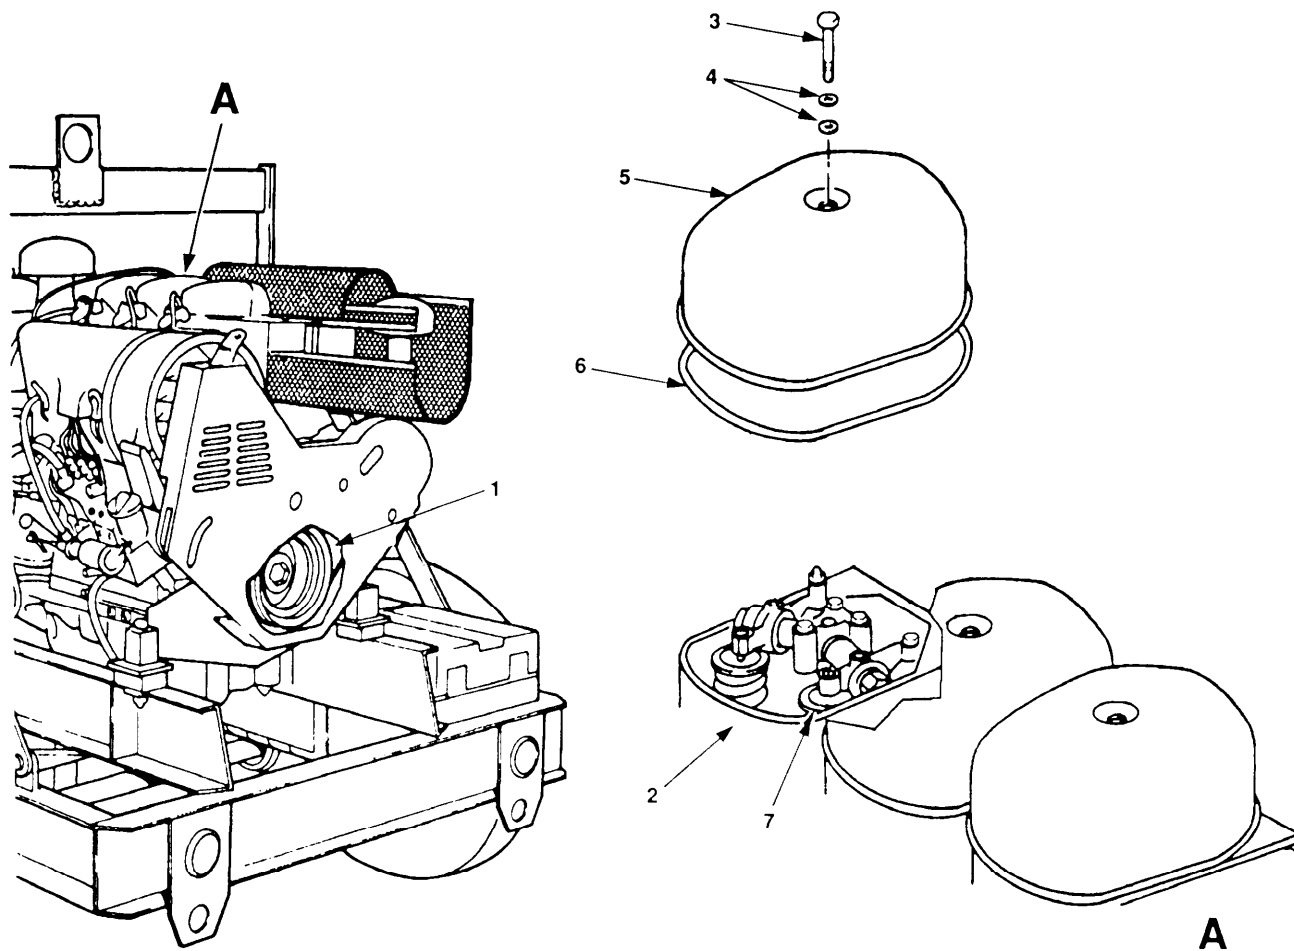

Figure 5-9. Marking of Top Dead Center (TDC).
- a. Install position pointer so that pointed end almost contacts outside edge of crankshaft pulley (figure 5-9, 1).
- b. Locate number 1 cylinder (2).
- c. Remove bolt (3), washers (4), cover (5), and gasket (6).
- d. Rotate crankshaft pulley (1) counterclockwise until valves on number 1 cylinder (2) overlap.
- g. Depress exhaust valve (7) of number 1 cylinder down. Install 0.006 (6 mm) keystone between exhaust valve stem face and rocker arm.
- h. Rotate crankshaft pulley (1) clockwise until piston lightly contacts open exhaust valve (7). Scribe mark even with pointer on front pulley.
- j. Rotate crankshaft pulley (1) clockwise 1/2 turn and install 0.006 (6 mm) keystone between number 1 cylinder (2) exhaust valve (7) stem face and rocker arm.
- k. Rotate crankshaft pulley (1) counterclockwise until piston lightly contacts open exhaust valve (7). Scribe mark even with position pointer on front of crankshaft pulley (1).
- e. While holding pulley in place, use angle of turn indicator tool to torque bolt (1) in accordance with appendix G.
- (1) Install position pointer so that pointed end almost contacts outside edge of crankshaft pulley (figure 5-9, 1).
- (2) Locate number 1 cylinder (2).
- (3) Remove bolt (3), washers (4), cover (5), and gasket (6).
- (4) Rotate crankshaft pulley (1) counterclockwise until valves on number 1 cylinder (2) overlap.
- (5) Turn crankshaft pulley 360° (one complete turn).
- (6) Rotate crankshaft pulley 1/4 turn.
- (7) Depress exhaust valve (7) of number 1 cylinder down. Install 0.006 (6 mm) keystone between exhaust valve stem face and rocker arm.
- (8) Rotate crankshaft pulley (1) clockwise until piston lightly contacts open exhaust valve (7). Scribe mark even with pointer on front pulley.
- (9) Rotate crankshaft pulley counterclockwise 1/4 turn and remove keystone.
- (10) Rotate crankshaft pulley (1) clockwise 1/2 turn and install 0.006 (6 mm) keystone between number 1 cylinder (2) exhaust valve (7) stem face and rocker arm.
- (11) Rotate crankshaft pulley (1) counterclockwise until piston lightly contacts open exhaust valve (7). Scribe mark even with position pointer on front of crankshaft pulley (1).